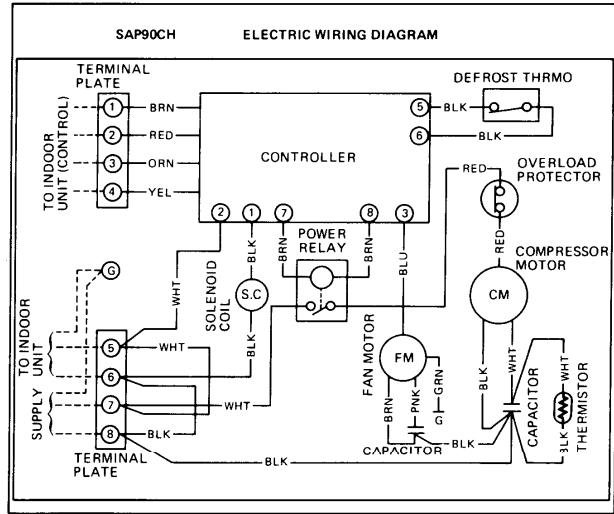

Fig. E-5H
Remove the blue (BLU) lead wire from the terminal (3), then brown (BRN) and pink (PNK) lead wires from the fan motor capacitor respectively as indicated in the wiring diagram (Fig. E-5H).